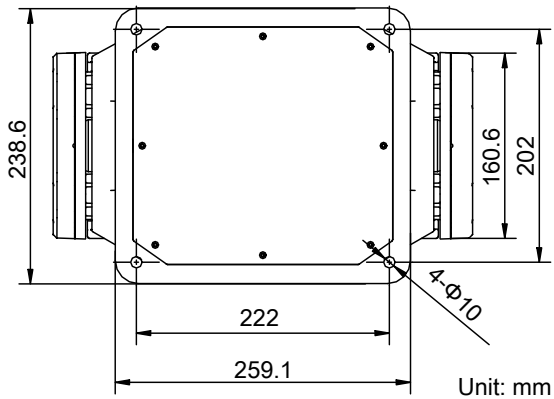

Figure 2-12 Positioning System Base Dimensions
- Drill four holes on the installation position according to the Figure 2-12.